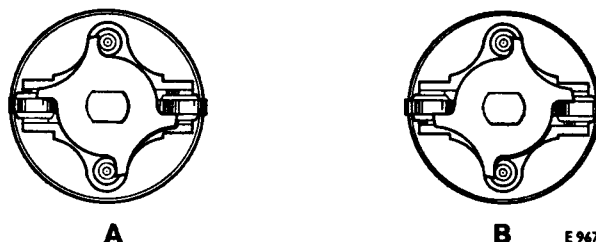

FIG. G58 HAND BRAKE STOP PLATE IN POSITION
3. The position of the stop plate beneath the coil spring determines whether the hand brake is left or right-handed and therefore care must be taken when assembling the roller assembly, stop plate and spring, to ensure that the hand brake lever is spring-loaded against the direction in which it rotates (see Fig. G58).